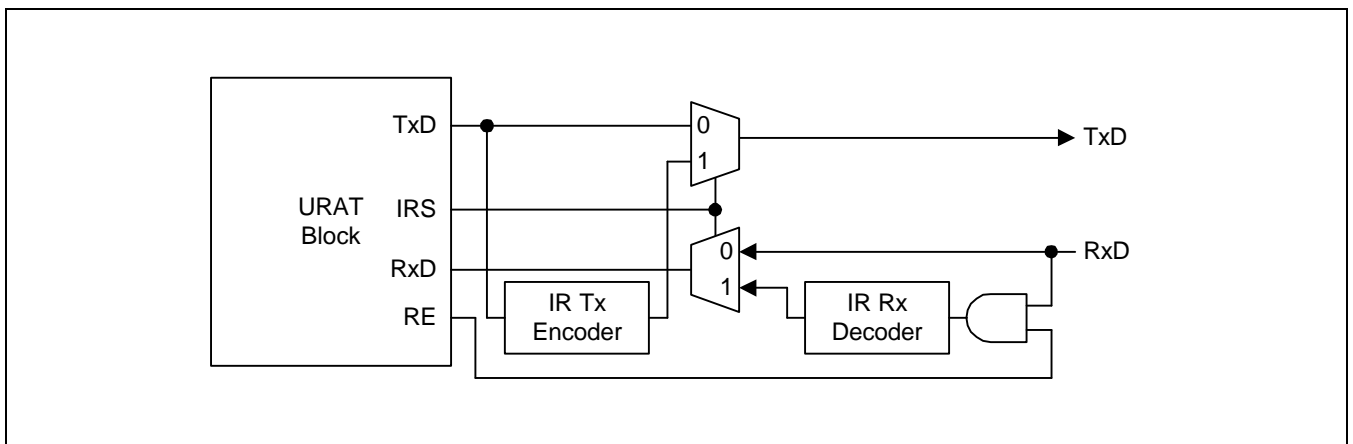

Figure 7-2. Infra-red Mode
The S3F441FX UART block can support the infra-red (IR)-based transmit and receive (IrDA 1.0), which can be selected by setting the infra-red-mode bit in the line control register (LCON). The implementation of the mode is shown in Figure 7-2.